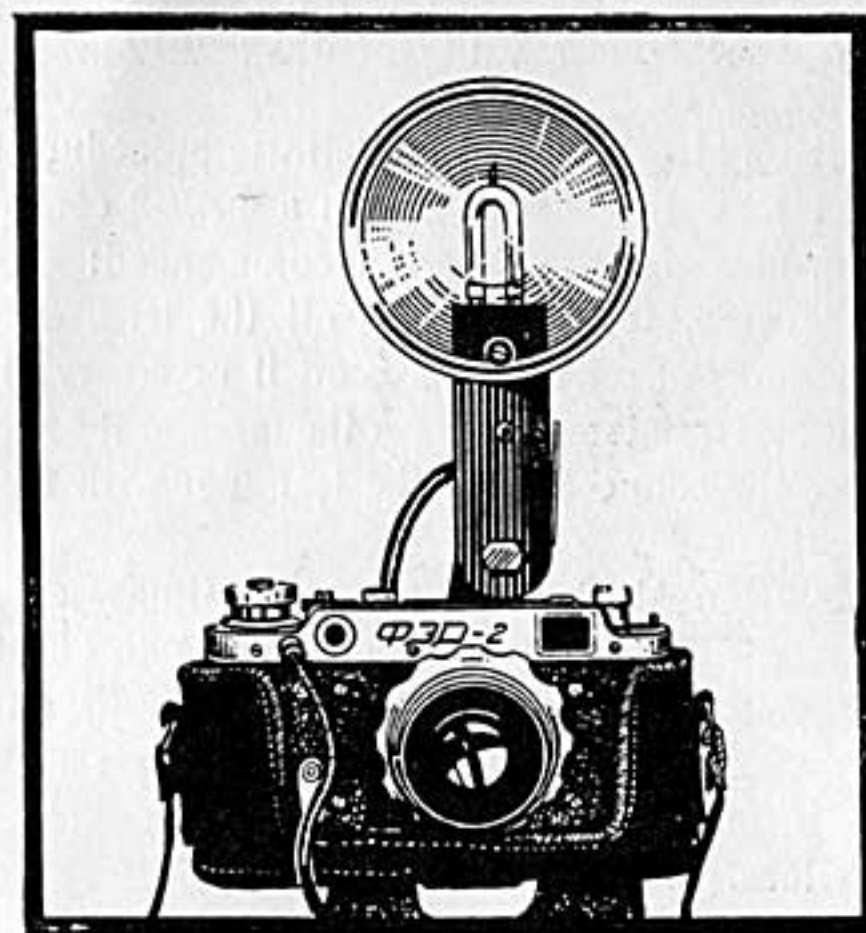

Fig. 13.
If the lighting conditions are poor, there may arise a necessity of using powerful sources of light-flash lamps. The camera shutter is provided with a synchronizer which connects the moment of flash with the shutter release. The synchronizer is designed for the use of flash bulbs and multiflashes with inertia time within 0+1 millisecond. The flash lamp is connected with the camera plug socket (9) by means of a special conductor with a terminal (Fig. 13). The flash reflector is usually fastened with a special cleat to the tripod bush of the camera or is set into the clamp of the camera (Fig. 13). The synchronizer of the ФЭД-2 camera has an interlock device which disconnects the electric circuit while the shutter is being wound.